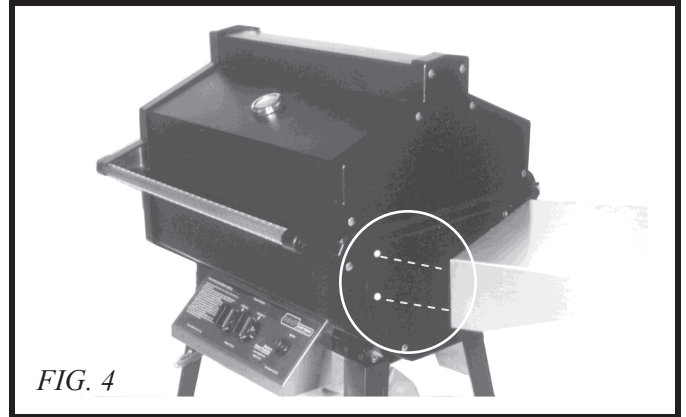

FIG. 4
Mount the shelves using the (8) 1 1/4" x 1/4 x 20 bolts and 1 1/2" Fender washers on the bottom mounting holes . (*Fig. 4*)